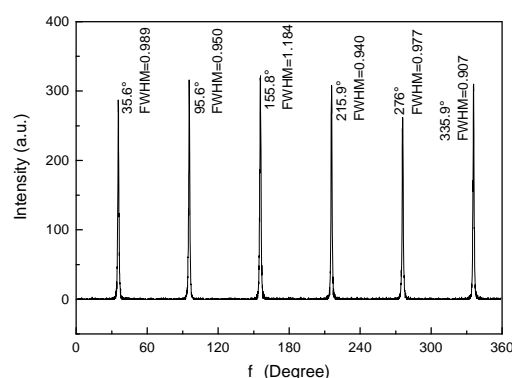

Figure 1. ϕ -scan of the Cu(111) film.
Figure 1 shows the XRD ϕ -scan profiles of the Cu(111)/Al₂O₃(0001). The peaks were observed periodically with an interval of 60°. The uniform intensity of the peaks, with an FWHM of ~0.9°, indicates that the Cu film was single-crystalline along (111) pole.